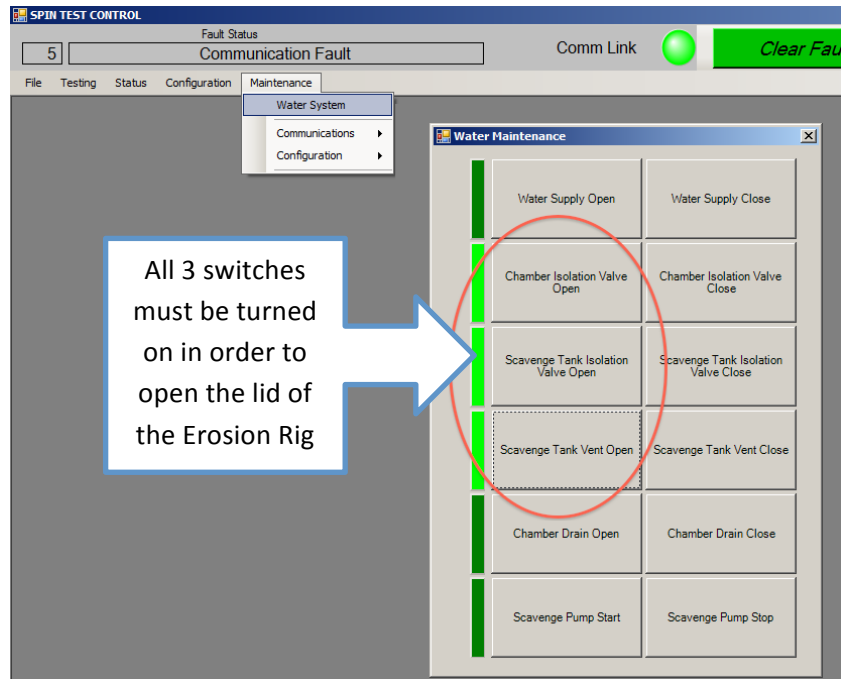

Figure 19: Water System Window
- 18.1. Open three Valves: This will allow the entire ER to return to atmosphere pressure. See figure 19.